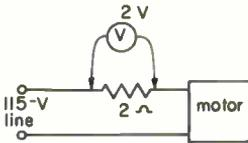

Fig. 57
- (1) be a voltage drop.
- (2) ordinarily be a voltage rise, although not always.
- (3) always be a voltage rise.
8. Most multimeters don't have AC current ranges, although they do have AC voltage ranges. Given the circuit of Fig. 57, you can nevertheless determine the motor current by measuring the voltage across the 2-Ω resistor. All you have to do is use Ohm's law, and keep in mind the fact that this is a series circuit. There is one voltage rise (115 V) and there are two voltage drops (one given and one unknown). Given this information, you can calculate the motor current to be